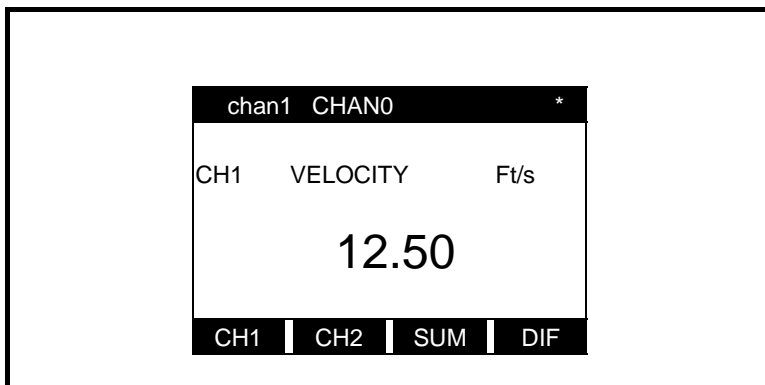

Figure 4-2: Big Format
- Big — shows one measurement at a time (see Figure 4-2 on page 4-3).
When you first power up, the TransPort automatically displays data using the Big Format as shown in Figure 4-2 below.